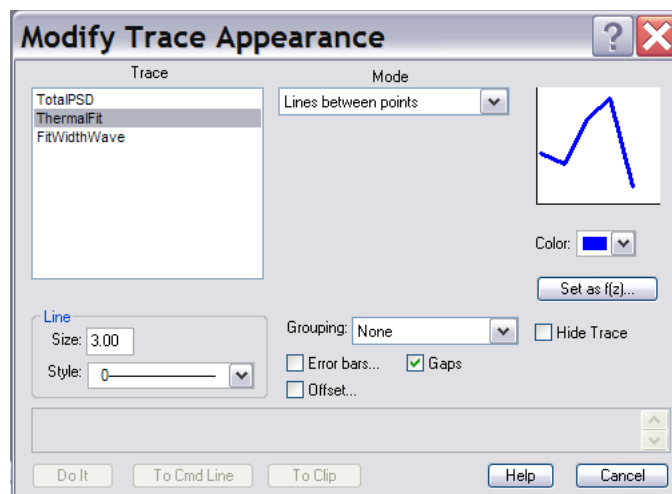

Figure 7.7.3: Modify Trace Appearance dialogue.
- To adjust line thickness (in any Igor Pro window), color or appearance, double click the mouse on the plotted line, and the Modify Trace Appearance dialogue will come up (Figure 7.7.3). Here the thickness, color, line style, and mode can be defined. When complete, click the 'Do It' button.